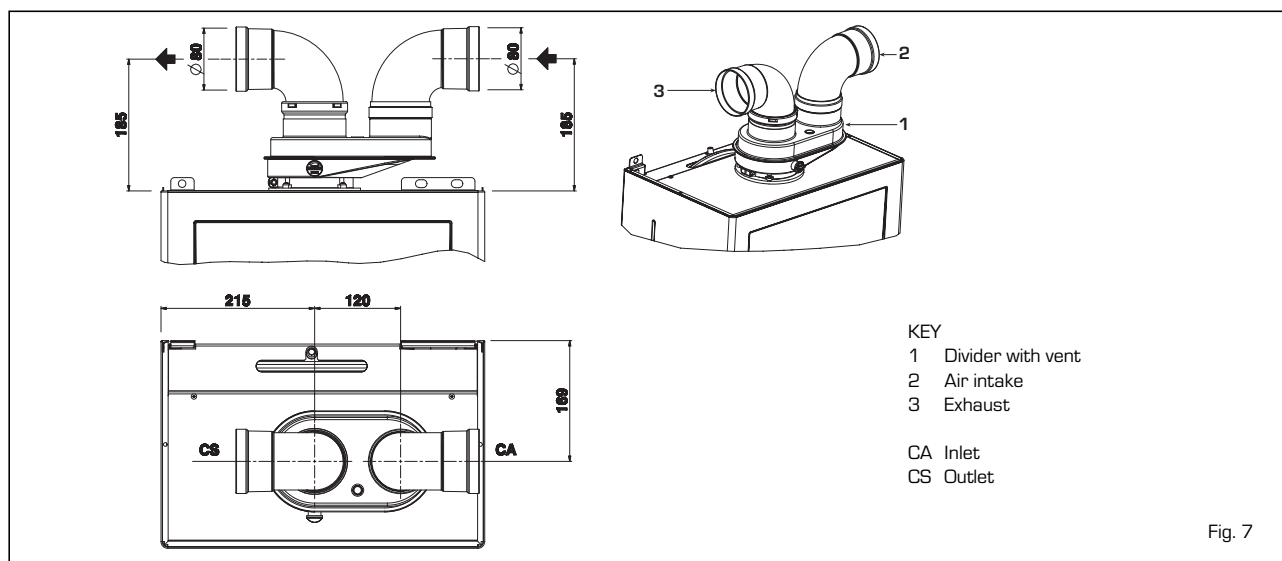

Fig. 7
2.6 INSTALLATION OF SEPARATE DUCTS ø 80 (fig. 7 - fig. 7/a)
The kit with dedicated pipes enables to separate the exhaust fumes pipes from the air suction pipes (fig. 7):